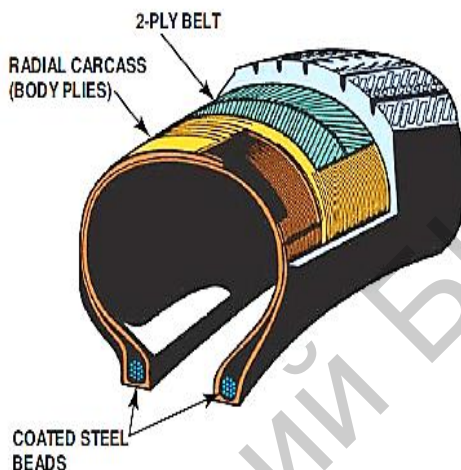

Figure 2 - Typical construction of a radial tire.
*Body ply.* A tire gets its strength from the layers of material wrapped around both beads under the tread and sidewall rubber. This creates the main framework, or carcass, of the tire; these body plies are often called carcass plies. A 4-ply tire has four separate layers of material. If the body plies overlap at an angle (bias), the tire is called a bias-ply tire. If only one or two body plies are used and they do not cross at an angle, but lie directly from bead to bead, then the tire is called radial ply (Fig. 2). Rayon is a body ply material used in many tires because it provides a very smooth ride. A major disadvantage of rayon is that it rots if exposed to moisture. Nylon is a strong body ply material. Though it is still used in some tires, it tends to flat-spot after sitting overnight. Aramid is the generic name for aromatic polyamide fibers developed in 1972. Aramid is several times stronger than steel (pound for pound), and is used in high-performance-tire construction. Polyester is the most commonly used tire material because it